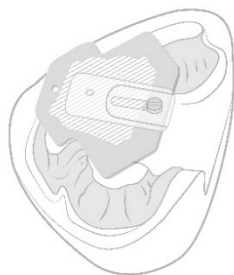

Fig. 3
12. Using the CANDULOR Marker provided, generously paint the mandibular registration plate. The templates are then inserted and, following the dentist's instructions, the patient traces the angle by making anterior, posterior, and lateral movements of the mandible (Fig. 3).